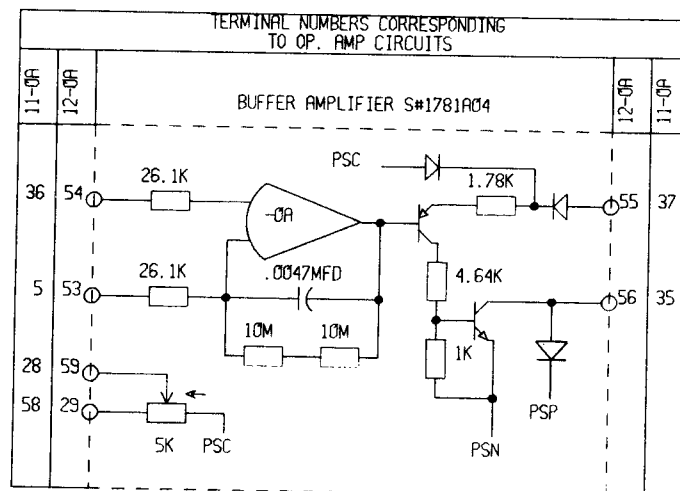

FIGURE 2C. VOLTAGE DETECTORS - MAX.2
There are a maximum of two duplicate voltage comparator (detector) circuits available as shown in Figure 2c. Each comparator has an associated set of six terminals, and the appropriate terminal numbers are grouped with the appropriate amplifier numbers. In the group identification, XX1 would select amplifier 11-0A; XX2 would select amplifiers 11-0A and 12-0A.
The comparator circuit can be used to determine the relative polarity of two voltages with respect to each other. Refer to Figure 2c. When the voltage at input terminal 36 (54) is negative with respect to terminal 5 (53), the two outputs are non-conducting (transistors off). When the voltage at input terminal 36 (54) is positive with respect to terminal 5 (53), the two outputs are conducting (transistors on). When the output transistor feeding terminal 37 (55) is off, this would correspond to a logic one for either 5V or 15V logic. When this transistor turns on, it represents a logic zero by sinking current from the appropriate logic circuit. When the output transistor feeding terminal 35 (56) is off, this would correspond to a high impedance output. When this output transistor turns on, PSN appears on the output terminal. This transistor driver stage could be used for driving a relay or a FET circuit.